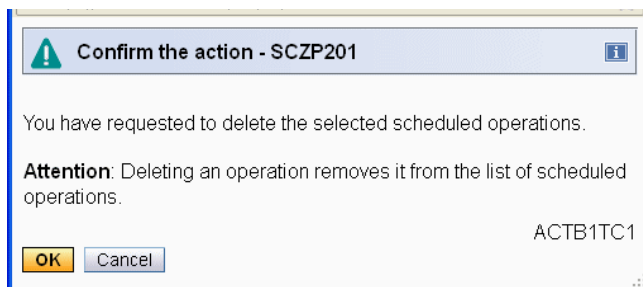

Figure 1-86 Delete scheduled operation confirmation
- On the “Confirm the action” panel click **OK** (Figure 1-86).